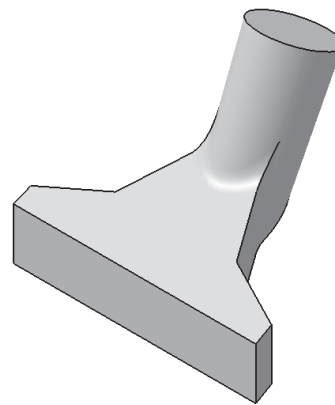

**Figure 5-80** Model, after creating the third feature
11. Using the **Hide/Show** tool, hide Sketch1, Sketch2, Plane1, and Plane2. The model, after creating the third feature, is shown in Figure 5-80.